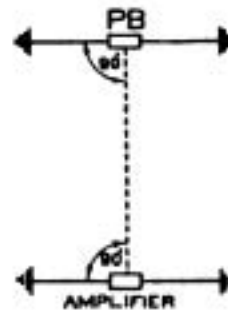
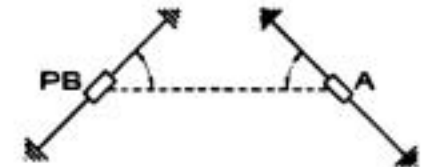

Fig. 3.
Fig. 4.
**Base-lines.**—The longer the better; not less than 100 yards for anything but the shortest ranges. Bases must be oriented so that the maximum earth current from the power buzzer is made to pass through the amplifier base-line. The ideal arrangement is to have the bases parallel to each other, and at right angles to a line joining their centres (Fig. 3), but failing this, best results are generally obtained by employing this rule: Lay the bases so that they make equal angles with a line joining their centres (see example in Fig. 4). The wire used should be heavy rubber-covered cable of not less than No. 18 S.W.G. copper for both transmitting and receiving bases.